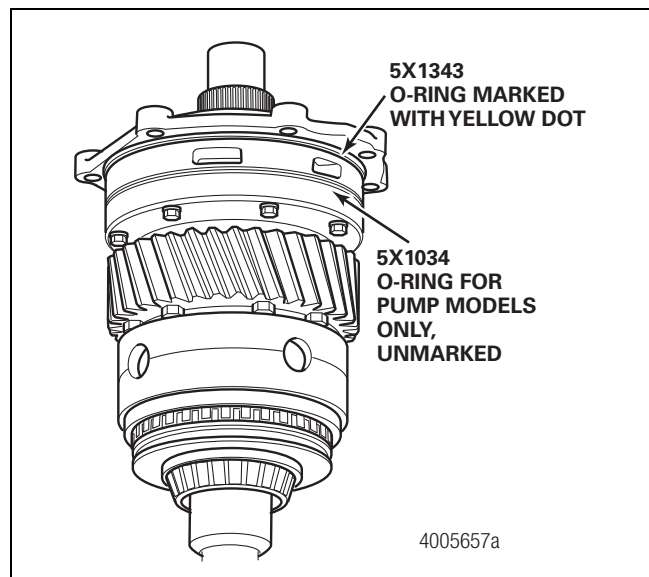

Figure 5
- Install the new O-ring(s) by stretching them over the yoke and flange. Be careful not to damage the O-ring(s). Ensure they are positioned correctly once installed. Install the O-ring marked with a yellow dot into the channel around the entire circumference of the input cage. For axles with pumps, install the unmarked O-ring into the channel at the input cage-to-pump interface. Figure 5.